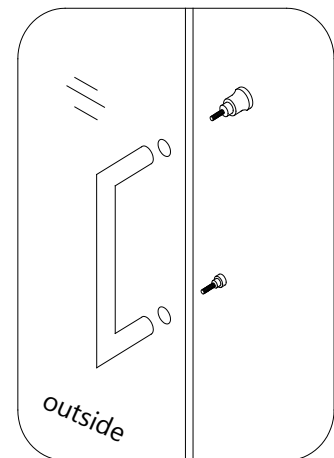

Fig 21
21. Attach the **Handle (#02)** onto the **Glass door (#01)**. (**Fig 21**)